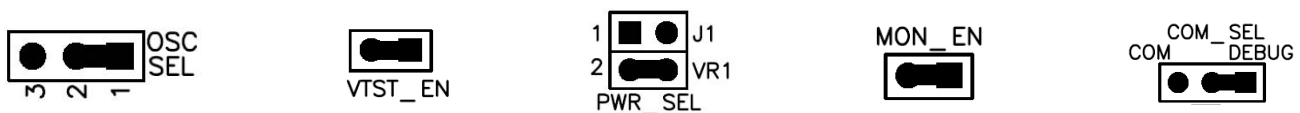

Figure 2. MON08 Debug Setting for Serial Connection
- Make sure the jumpers are in the debug position. Refer to Figure 2.